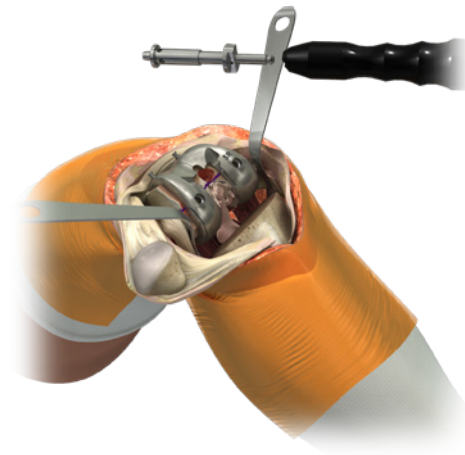

Figure 40
1. For cruciate retaining femorals, after completing step 3 of the component trialling section (page 15), prepare the femoral lug holes through the femoral trial with the femoral lug punch (Figures 40 and 41).